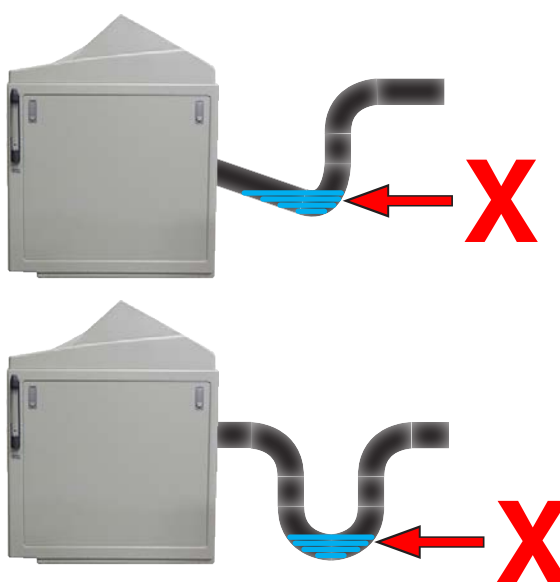

Figure 6.8g: Incorrect vent installations.
- Avoid all installations that could create moisture traps. See Figure 6.8g.
- Figure 6.8f and Figure 6.8g illustrate correct and incorrect ways to connect the Q-FOG chamber vent.